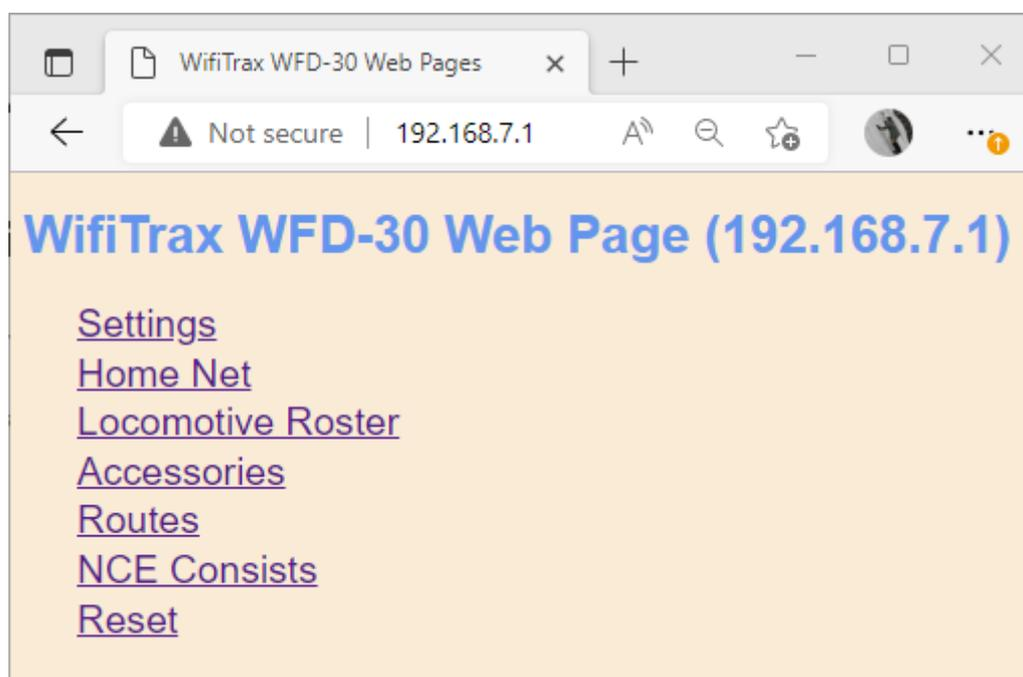

Figure 27 The WFD-30 Web Setup Main Menu
- (1) Tap the “three dots” icon at the top right of the screen and select Web in the menu. You should now see the Web Setup Main Menu as in Figure 27. You can click or tap on any of the headings in the menu to access the setup for that feature. The later sections provide information about all of the menu options.
- (2) You now should see the WiThrottle Address page. At the bottom there should be four tabs Throttle, Address (highlighted in blue), WebServer and Settings. Tap on the WebServer tab and you should now see the Web Setup Main Menu as in Figure 27. You can click or tap on any of the headings in the menu to access the setup for that feature. The later sections provides information about all of the menu options.
Once you connect to the web pages, you should see the Web Setup Main Menu as in Figure 27. You can click or tap on any of the headings in the menu to access the setup for that feature.
To modify General Settings, tap the Settings heading in Figure 27. The various settings are described in the following sections.